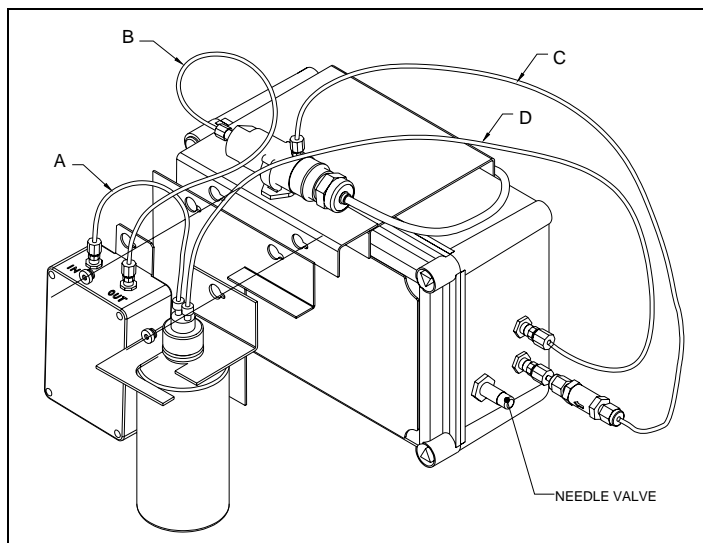

Figure 12
5. See Figure 12. Clean Tube A using de-ionized or process water (water to be tested).
18. Once the residual water has been successfully purged, insert about 4 inches (10 cm) of the exposed end of Tube D into the Transfer Cap. The assembly is now complete and should now appear as Figure 12.